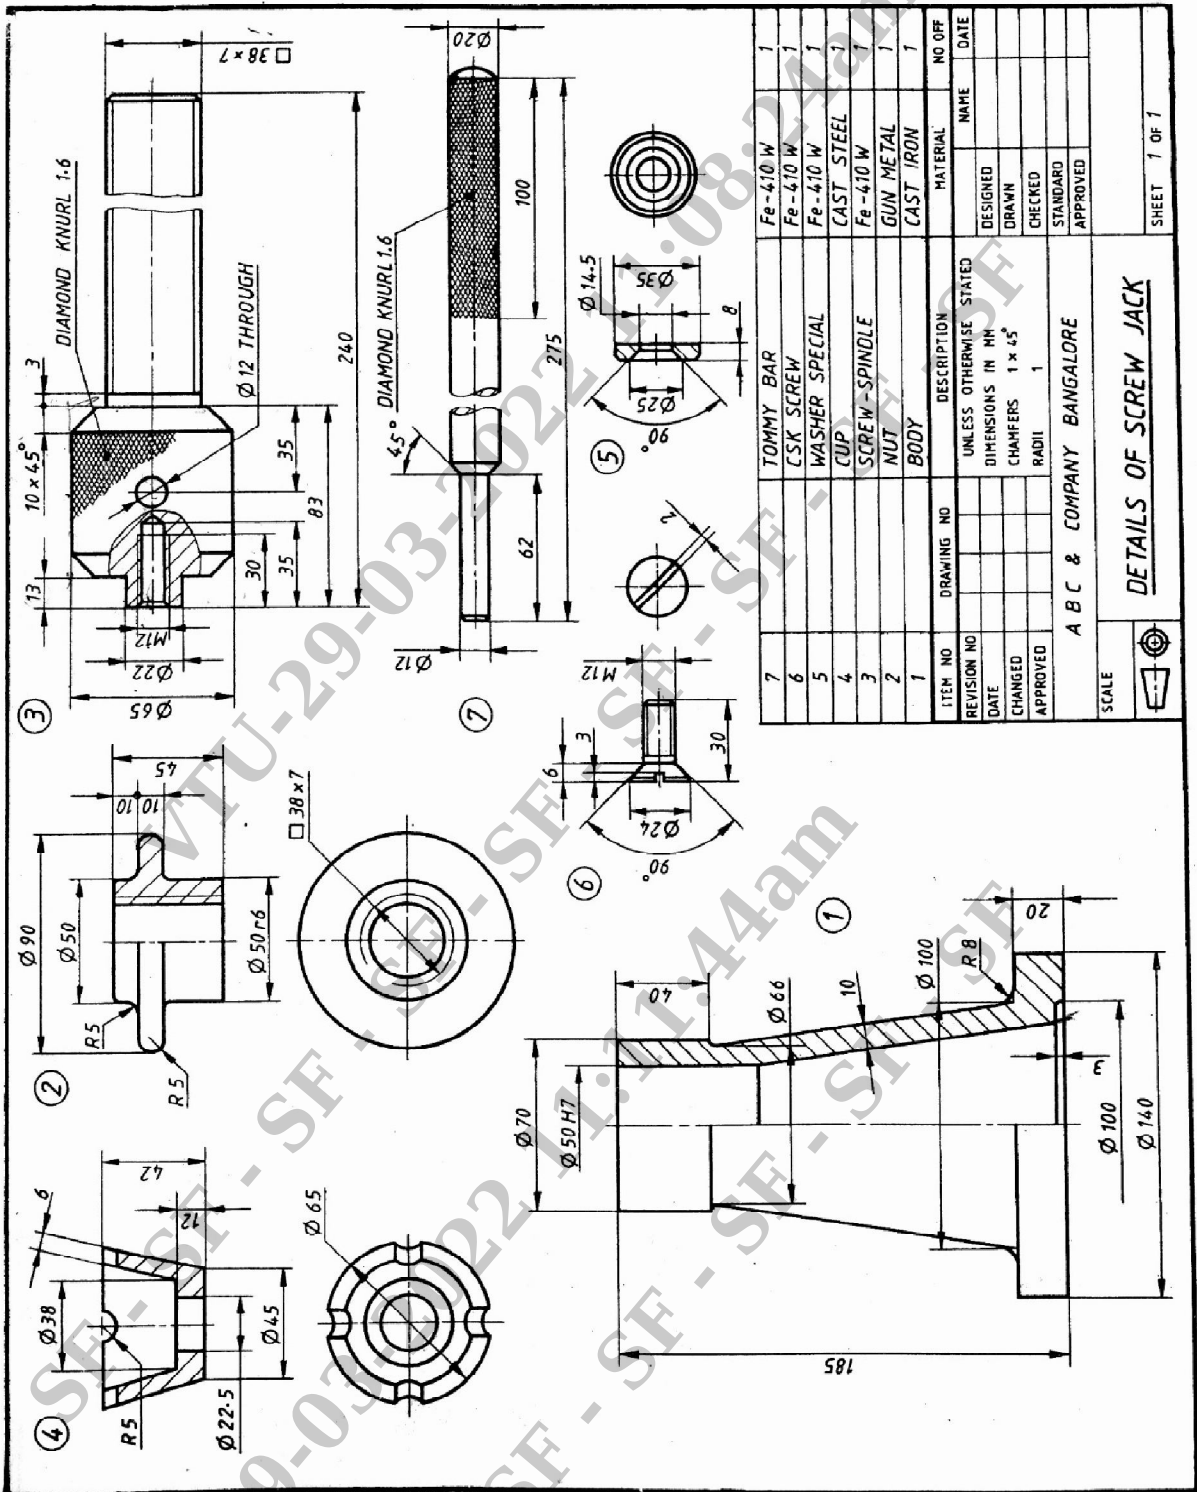

Figure 1: Details of screw jack
5. Figure 1 shows the details of a screw jack. Assemble the parts of the screw jack and show the following views.